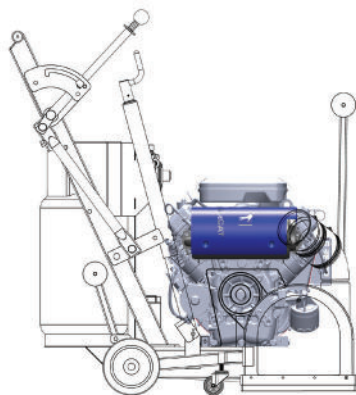

Figure 18 - JS in blade change position with engine off
6.18 Figure 18 to Figure 23 of JS SERIES SAWS
7.3.3 To tighten the belt, loosen the four 5/16" hex nuts that hold the engine to the chassis. Then, turn the 3/8" hex head bolt clockwise on the front of the JS. This bolt can be seen as item #44 in Figure 18.